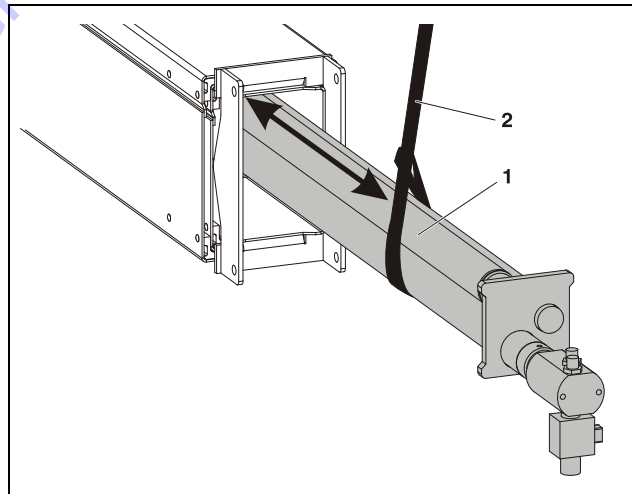

Figure 6-12. Hydraulic Cylinder - Removal
7. Slide the multi-stage hydraulic cylinder into the hydraulic cylinder compartment of the mast assembly. (See Figure 6-12.)